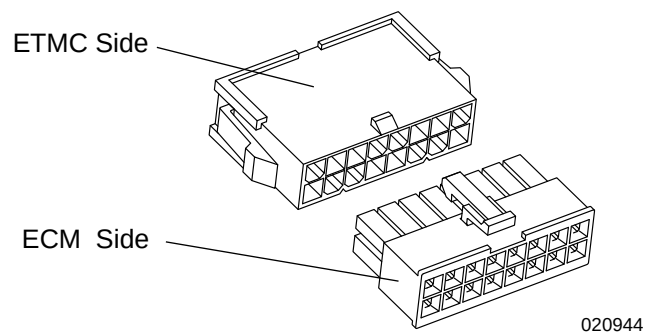

Figure 10-10. ETMC Connector Showing The ECM Connector From The Harness (Wire) Side
5. See Figure 10-10. Disconnect the ETMC connector. Visually inspect the ETMC harness pins for damage.